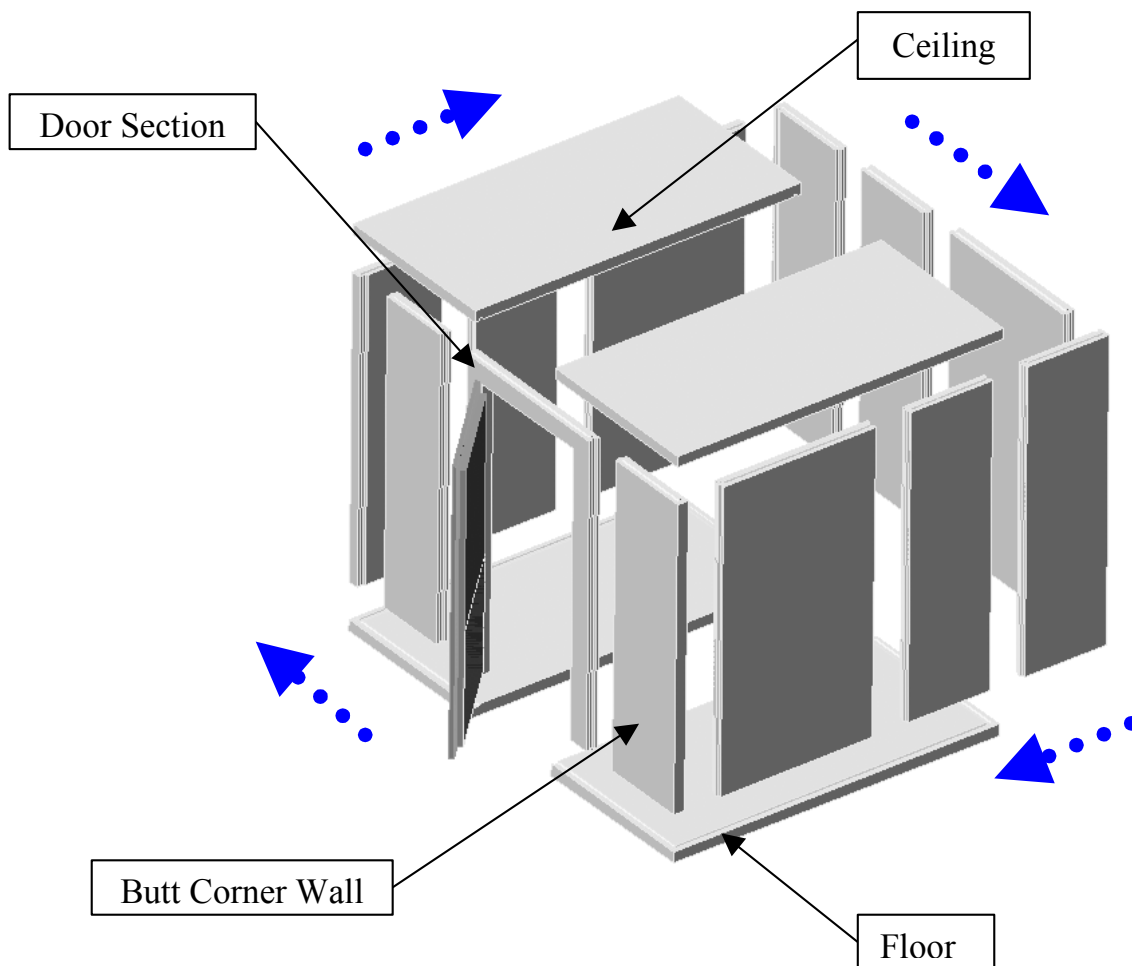

Fig.3
3. Now that you have one wall upright begin the next by following the same direction. (Fig.3)